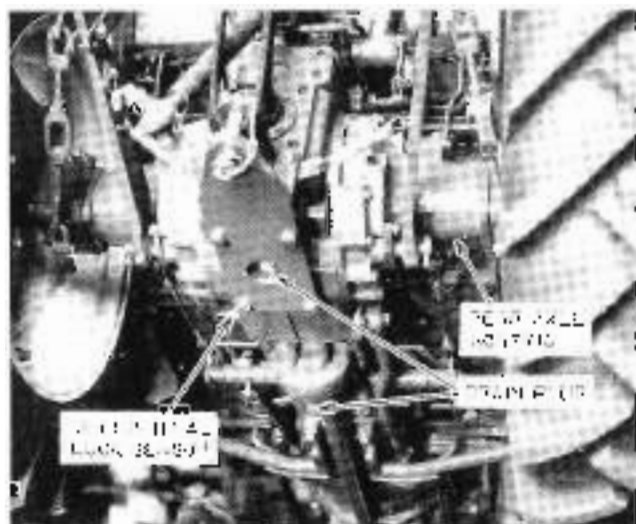

Figure 42 Transmission, Rear Axle Oil Drain Plugs and Filter
1. To perform an oil change operation, park the tractor on level ground by leveling the transmission and rear axle drums, Figure 42. A 50 lb. (23 kg) sheet of absorbent material is placed over the plugs when the oil has drained. Discard it later.